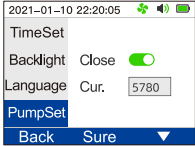

Figure 22
**Pump settings:** set the pump switch (as shown in Figure 22), in the main interface state, press the left and right keys at the same time, the air pump can be directly turned on or off.